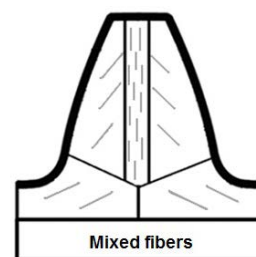

Figure 2 Fibers distribution outline.
- Bulk influence coefficients C_{kj}^V computed by finite element method. This method is applied on three teeth to deduct the effect of local displacement on the neighboring teeth. Moreover, the finite element method is based on Figure 2, where the fiber presence and its orientation are taken into account.